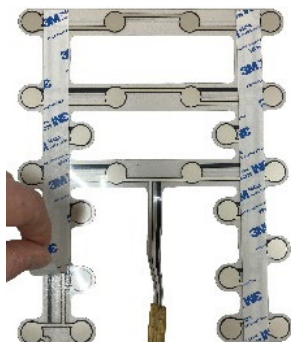

Figure 16
2. Peel backing away from sensor to expose adhesive. See Figure 16.